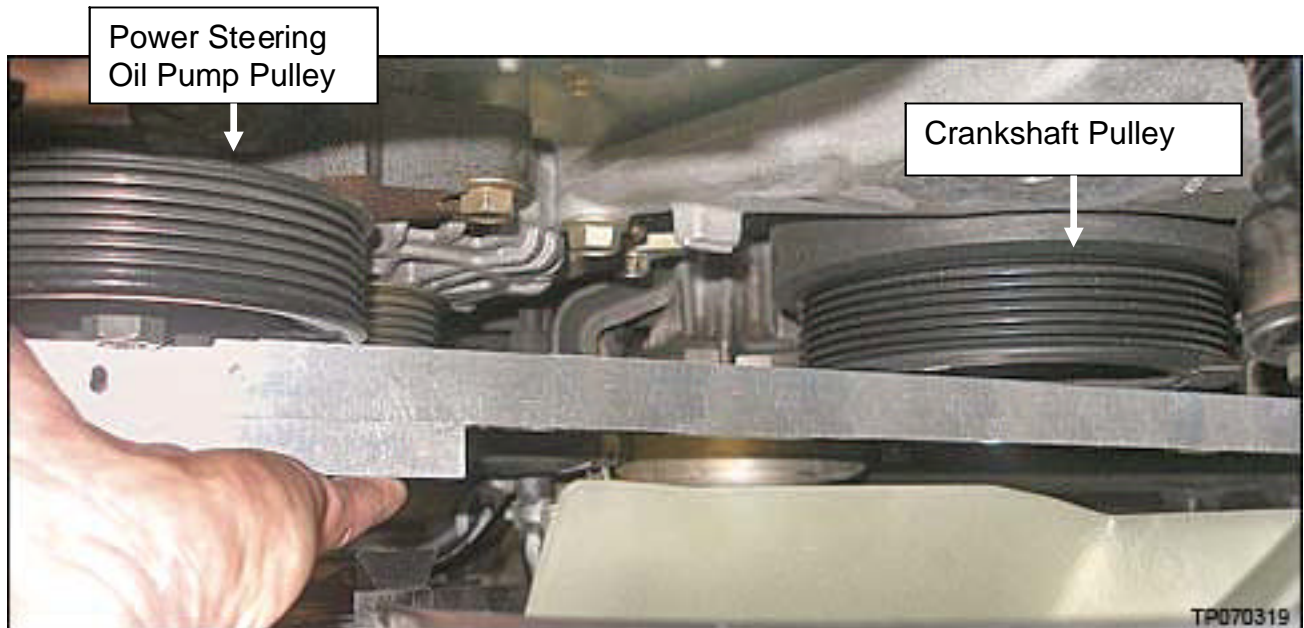

Figure 1
5. Using a straightedge (or other equivalent tool), visually check the power steering oil pump pulley and crankshaft pulley alignment. The pulleys should be evenly aligned as shown in Figure 1.